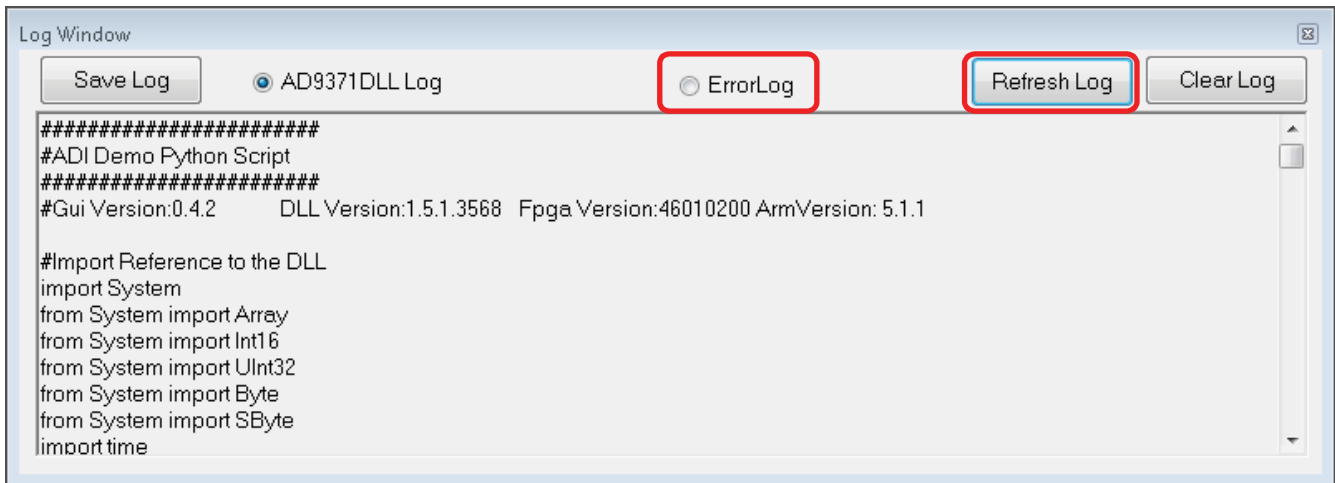

Figure 50. AD9375 SCES Log Window
- **View Log Files** monitors API activities. This command opens the window shown in Figure 50. In this window, the user can select from the following options: